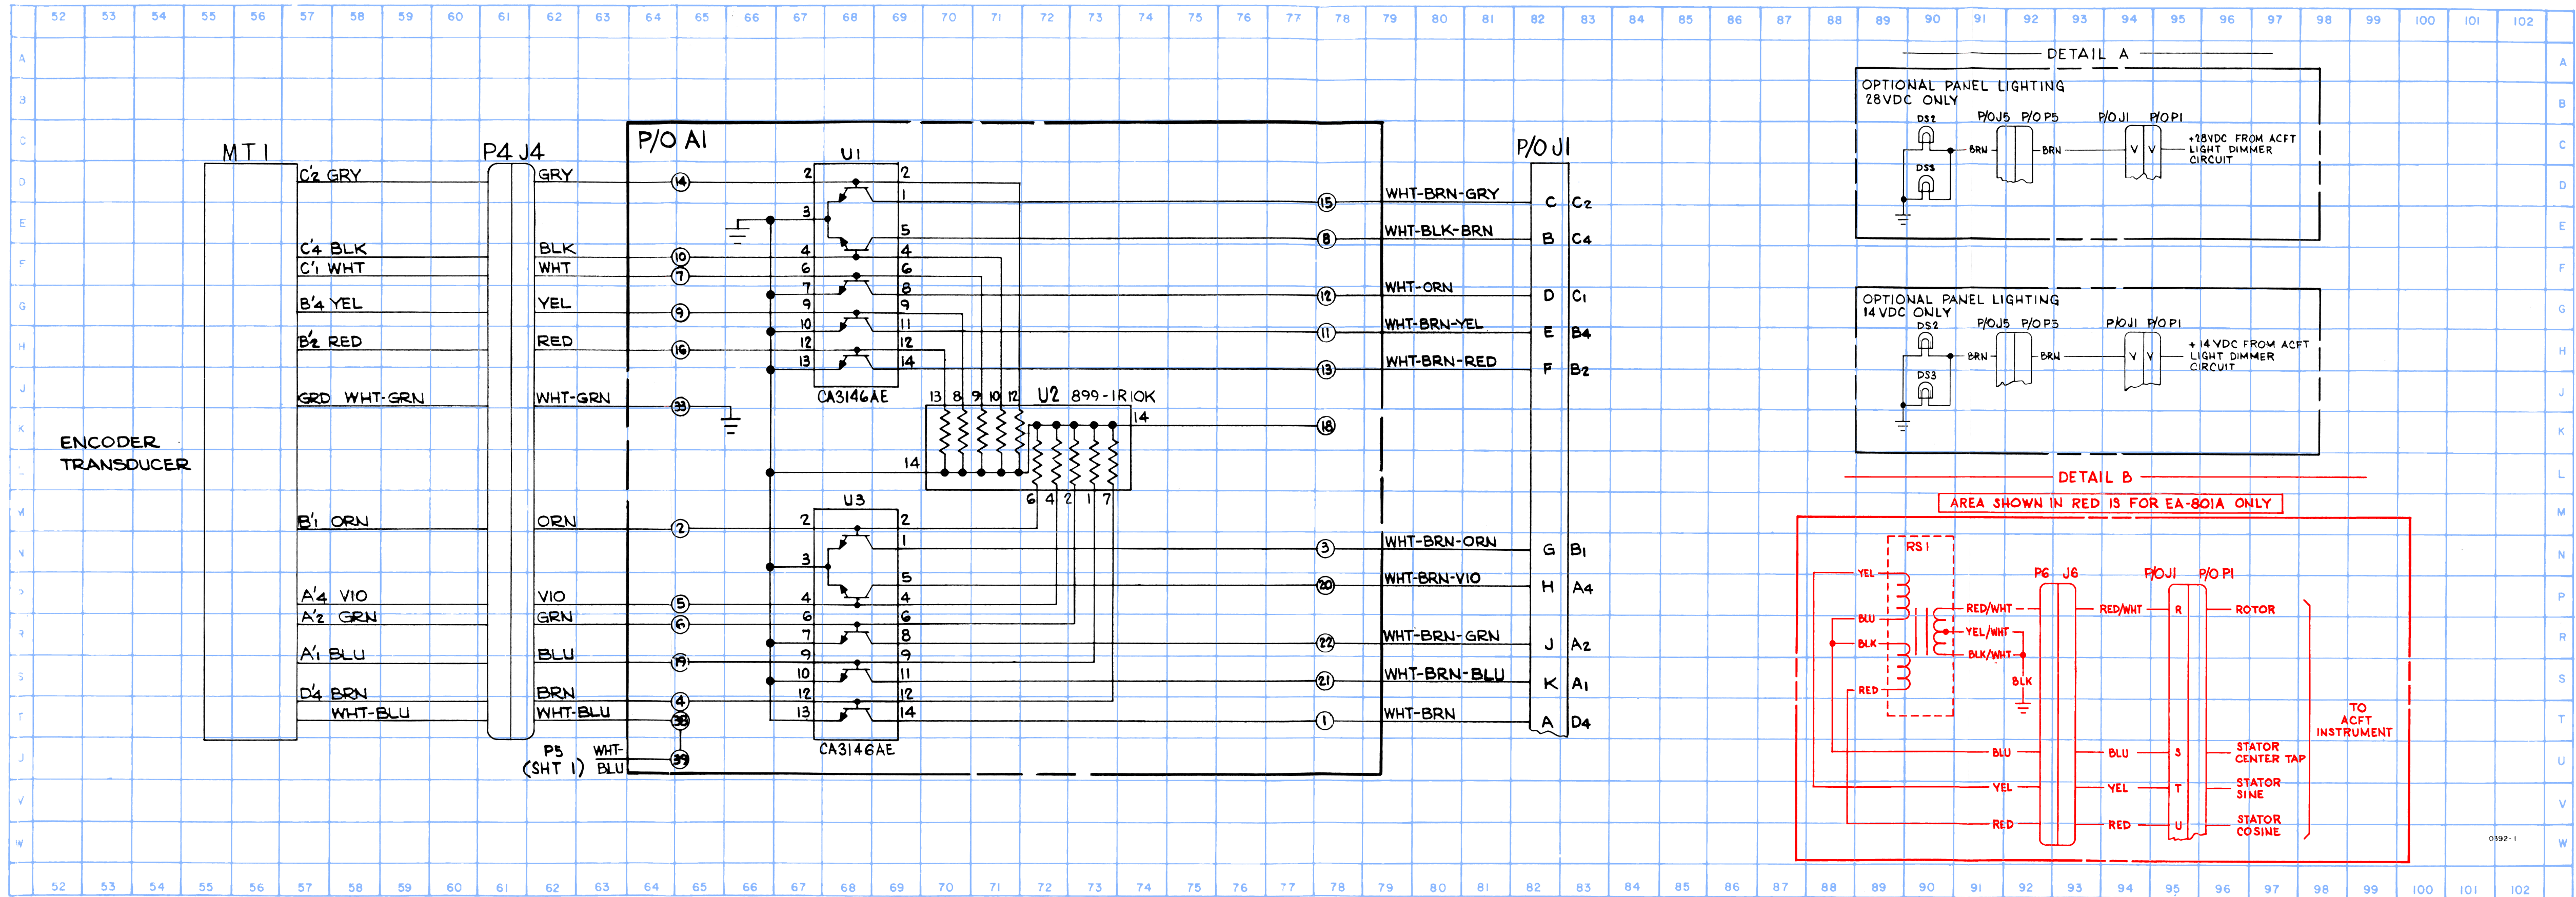

Figure 6-1. Encoding Altimeter, Schematic Diagram (Sheet 2 of 2)
4. For schematic diagram see Figure 6-1.